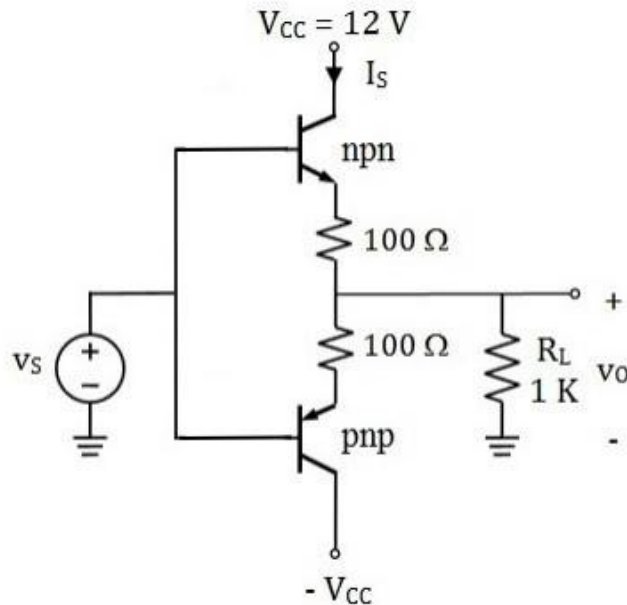

Figure 2: Class B Power Amplifier
1. A Class B power amplifier in push pull configuration is shown in Figure 2.